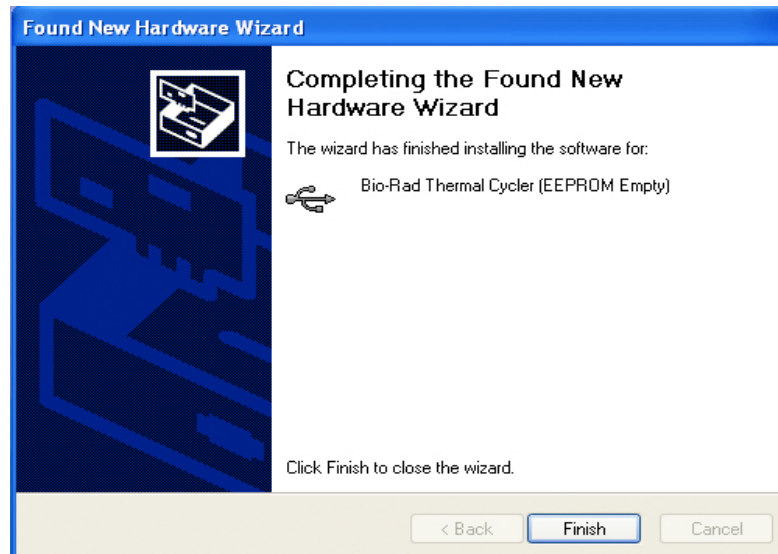

Figure 6. Finished Driver installation screen.
7. Click **Finish** (Figure 6) at the software installation completion screen when the driver is installed.